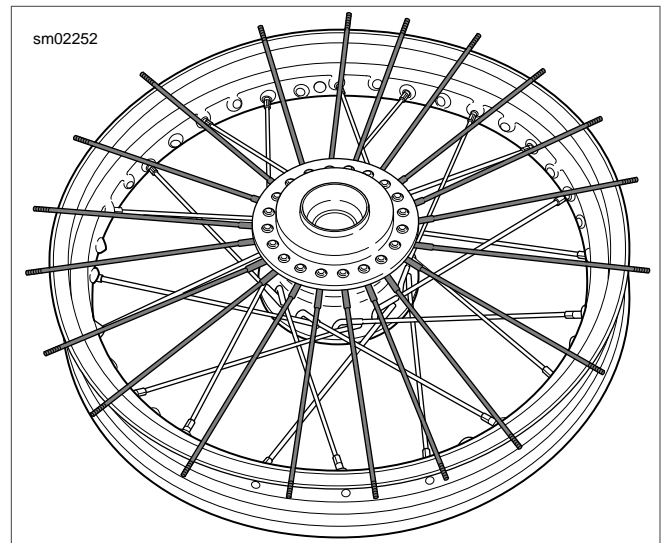

Figure 2-37. Fanning Top Flange Spokes
15. See Figure 2-37. Undo each top bundle and fan the spokes out (in a starburst pattern) around the top rim edge.